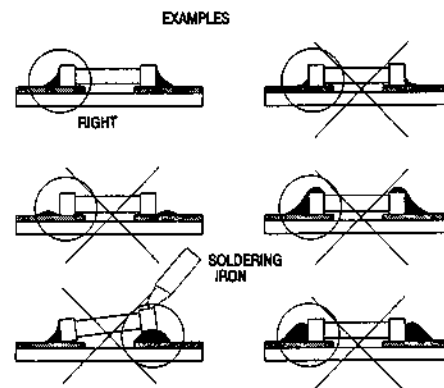

Fig. 3
- The quantity of solder must be proportional with the size of the solder land. If the quantity is too great, the SMD might crack or the solder lands might be torn loose from the board (see Fig. 3).